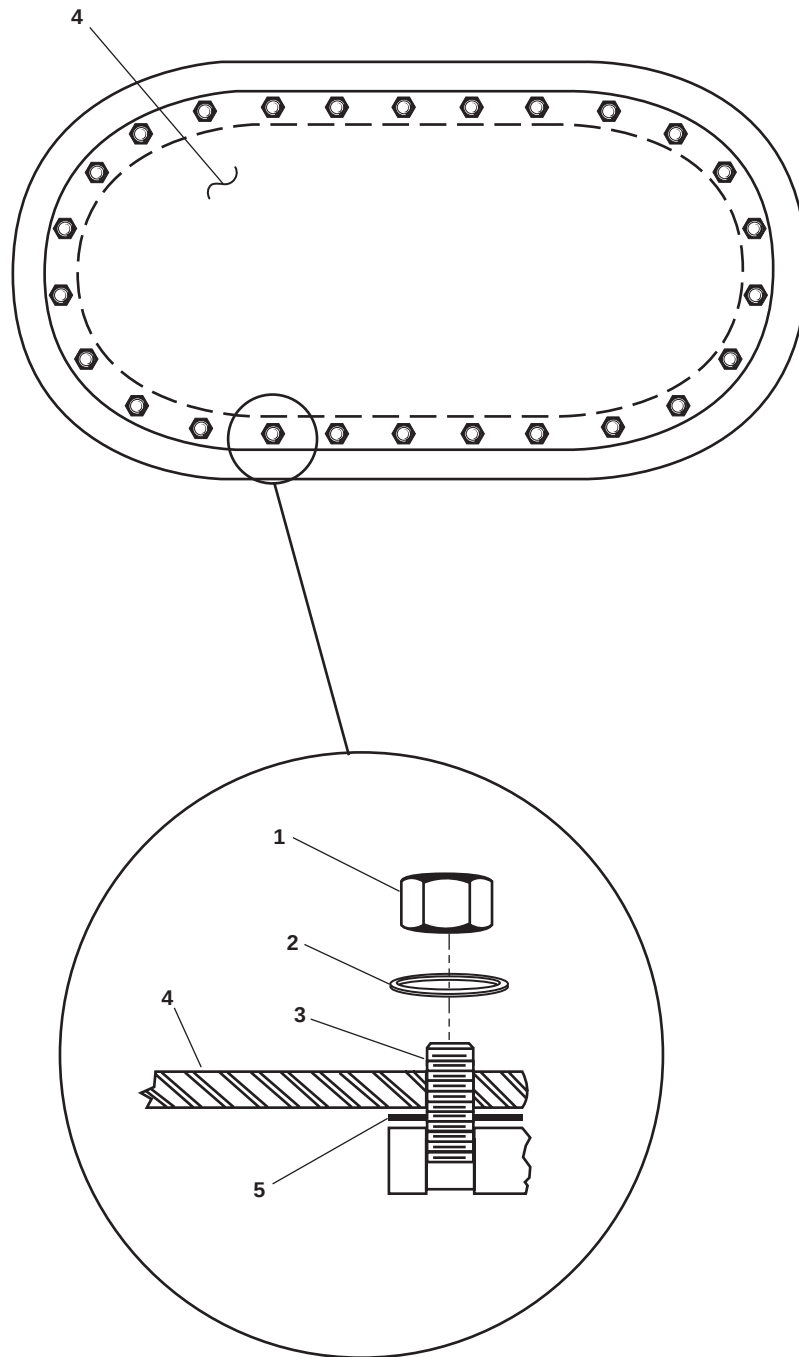

Figure 1. Manhole (Raised)
1. Remove all nuts (figure 1, item 1) and washers (figure 1, item 2) from the studs (figure 1, item 3).
2. Remove the manhole cover (figure 1, item 4) from the closure.
3. Remove the gasket (figure 1, item 5) from the manhole cover.
4. Position the new gasket (figure 1, item 5) over the studs (figure 1, item 3).
5. Place the manhole cover (figure 1, item 4) on the closure.
6. Secure the cover using washers (figure 1, item 2) and nuts (figure 1, item 1).